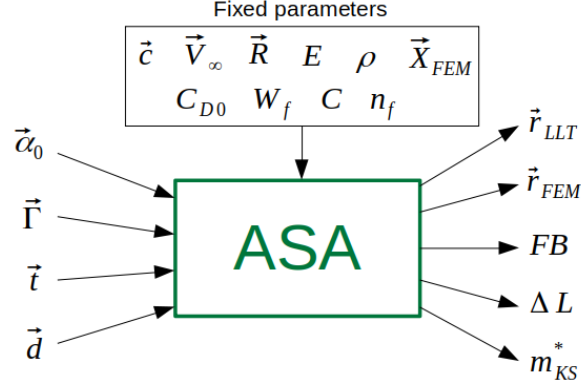

Figure 6: Inputs and outputs of the ASA module. Some fixed parameters are not mentioned for simplicity.
Now that we have introduced all components, we need to couple them in an ordered manner for the aerostructural analysis. In the end, we want an Aerostructural Analysis (ASA) module with the interface presented in Fig. 6.
**Draw a block diagram connecting the inputs and outputs of the `ASA` module while using the blocks presented in Sec. 3.** You may need some additional equations to complete all outputs shown in Fig. 6. You can create new blocks in your diagram to represent these equations. If you use equations from this document, use the equation number as the block name.